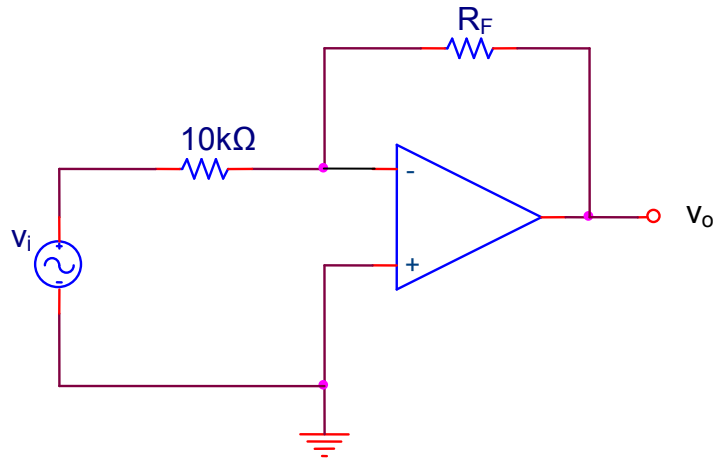

Figure 6.2
For the circuit in Figure 6.2, find v_o as a function of v_i and R_F .
1. Construct the circuit in Figure 6.2. Set $R_F = 10k$ ohms, and apply a 0.3V peak, 1kHz sine wave at V_i . Use your oscilloscope to observe V_i and V_o simultaneously. Record the peak value of V_o . Compare it to the value calculated in the pre-lab. What is the phase difference between V_o and V_i ?